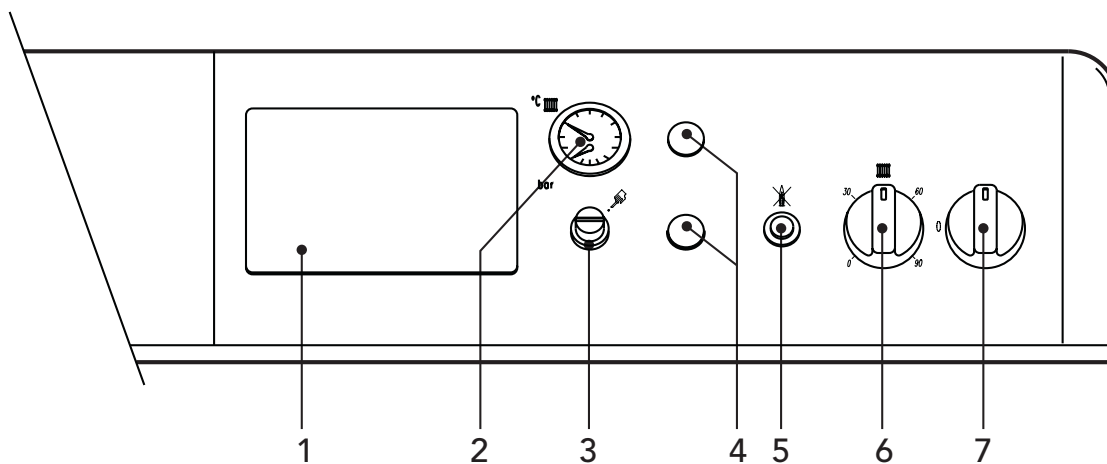

fig. 1
- Turn the boiler switch "7" onto 1 (Fig. 1).
- If the boiler is equipped with an electronic thermostatic controller mounted at position 1 of Fig. 1, the user must also take into account the manufacturer's instructions.
Turn knob 6 (Fig. 1) clockwise to increase the heating water temperature, turn anticlockwise to decrease it. The temperature can be varied from a minimum of 30°C to a maximum of 90°C. However, it is advisable not to operate the boiler below 45°C.
Using the room thermostat, set the temperature desired in the rooms. Controlled by the room thermostat, the boiler lights and delivers water to the system at the temperature set by boiler adjustment thermostat 6 (Fig. 1). The generator turns off when the desired temperature in the rooms is reached.
The filling pressure with system cold, read on boiler hydrometer (detail 2 in Fig. 1), must be about 1.0 bar. If, during operation, the system pressure falls (caused by the evaporation of gas dissolved in the water) to values below the minimum described above, the user must bring it back to the initial value by operating the filling cock. At the end of the operation always close the filling cock.